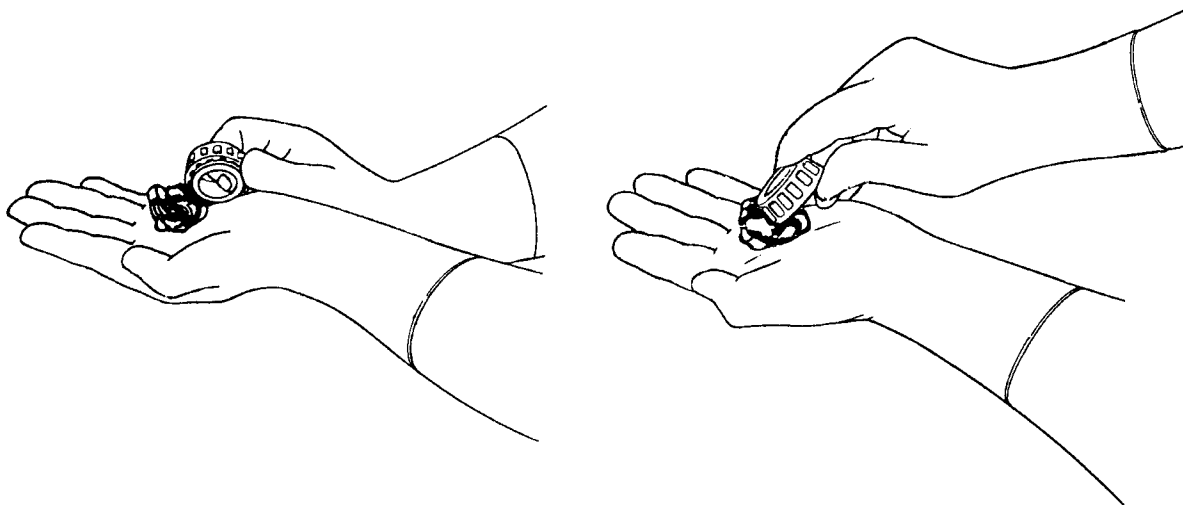

Figure 5-56. Hand Packing Bearing Cones With Grease.
6. Pack the bearing cones with Cub Cadet 251H EP grease using a bearing packer. If a bearing packer is not available, refer to Figure 5-56 and pack the bearings by hand as follows: